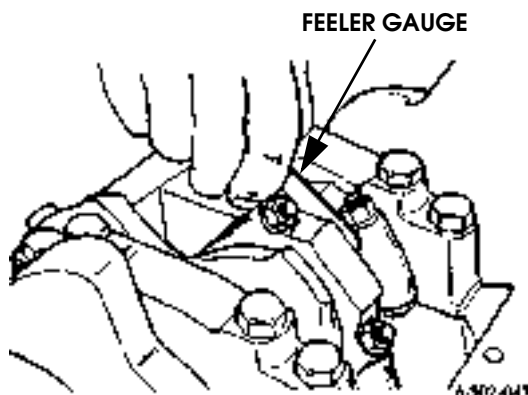

Figure 2-163: Checking Connecting Rod Side Clearance
12. Check connecting rod side play with feeler gauge (Figure 2-163). Insert gauge between connecting rods on same journal. Clearance should be 0.007-0.025 in. (0.17-0.63 mm).